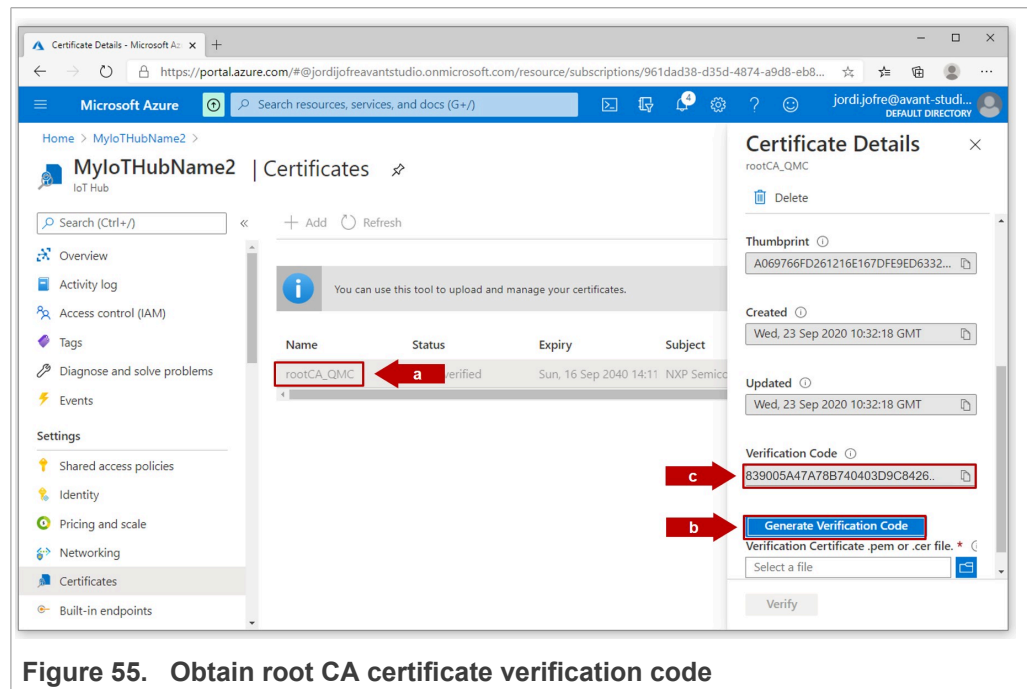

Figure 55. Obtain root CA certificate verification code
3. To obtain the verification code, do as shown in Figure 55